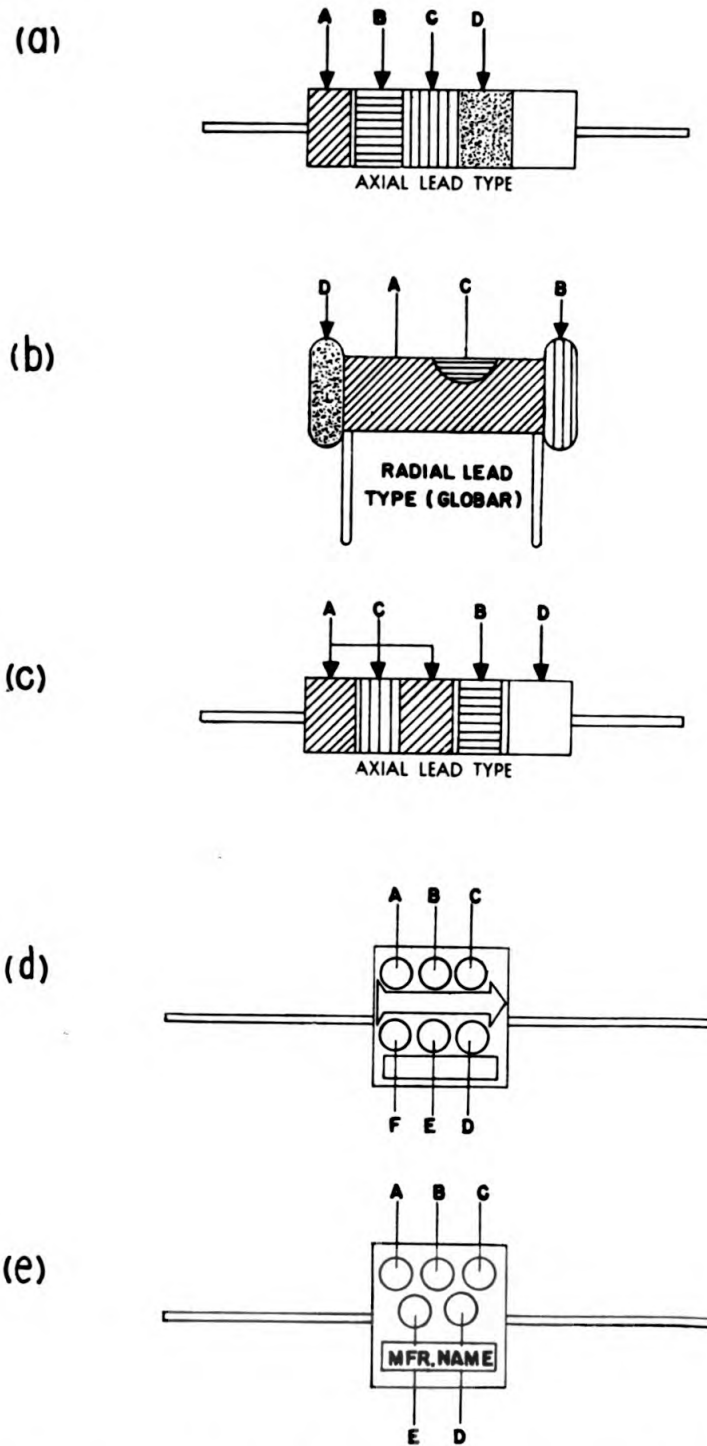

Figure 35. Diagram of RMA Color Code for Resistors and Capacitors
a. Resistors.—The nominal resistance value of fixed carbon resistors is indicated in three manners. The colors used to represent the resistance values in ohms are given in the above table. The system in most common use for axial lead resistors indicates the value with colored bands as in figure 35(a), in which:
(1) Band A indicates the first significant figure of the resistance value.
(2) Band B indicates the second significant figure.
(3) Band C indicates the multiplier.
(4) Band D, if any, indicates the tolerance limits about the nominal resistance value. No tolerance color indicates 20 percent.
For radial lead resistors (such as Globar) the system shown in figure 35 (b) is used, in which the colors of—
A system, not too commonly used at present, for indicating nominal resistance value of axial lead resistors is shown in figure 35 (c) in which the colors of:
A system now in common use involves six dots of color as in figure 35 (d) in which the color of:
Another commonly used system involves the use of three dots of color which is interpreted in the same manner as the first part of the five-dot system shown in figure 35 (e). The latter is described because a number of mica capacitors used in Radio Receiver BC-792-A are thus coded. In figure 35 (e) the color of: